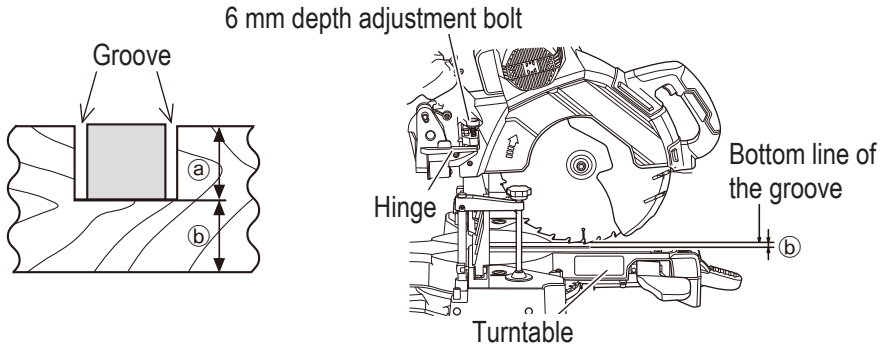

Fig. 32
Grooves in the workpiece can be cut by adjusting the 6 mm depth adjustment bolt (Fig. 32).
- (2) Adjust to the desired cutting depth by setting the distance between the saw blade and the surface of the base (Fig. 32).